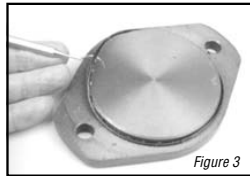

Figure 3
**2** Use a pick or similar tool to remove the adapter cover plate or gear pump o-ring. (See Figure 3)